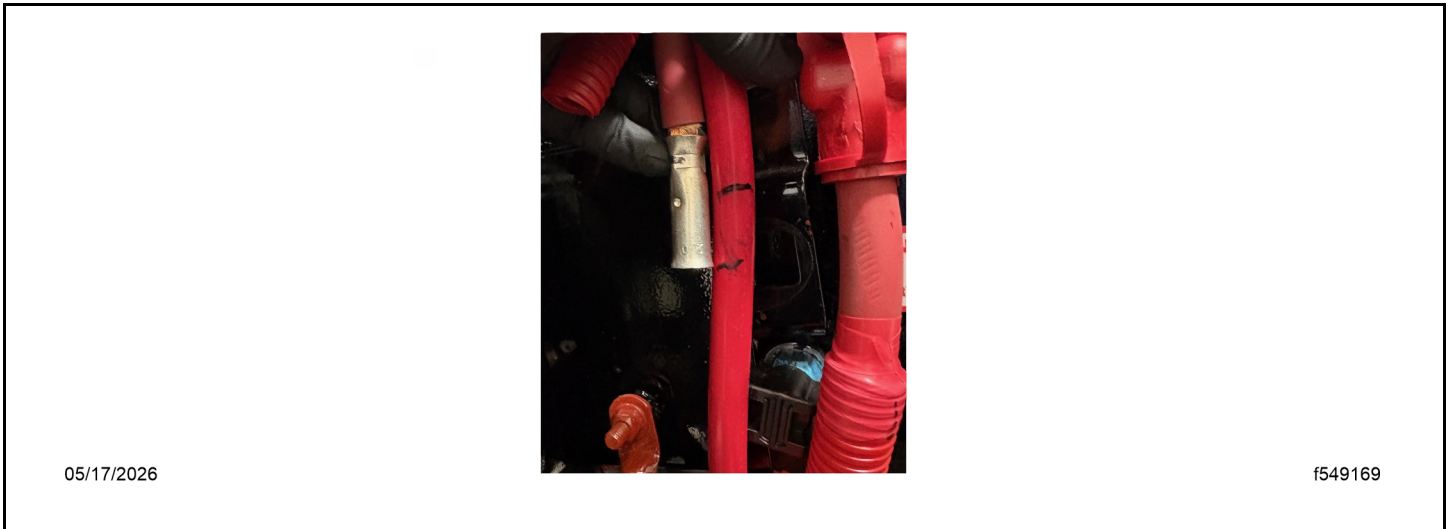

Fig 97, Determining the BCA Cable Length
38. Determine the ideal length for the auxiliary BCA cable and starter cable between the starter and butt connector. Cut the cables. See Fig. Fig. 97.